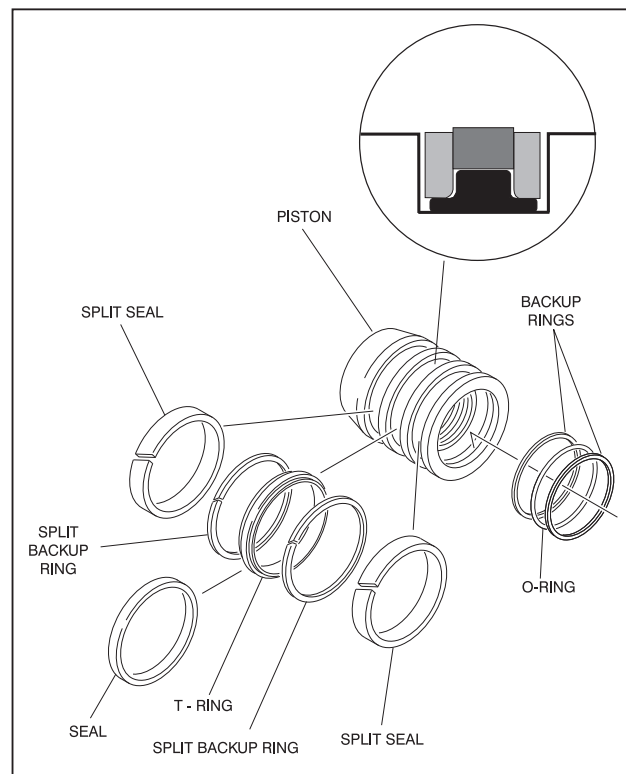

Figure 4-23. Piston Seal Kit Installation
NOTE: The backup rings for the solid seal have a radius on one side. This side faces the solid seal. [See magnified insert in (See Figure 4-23.)] The split of seals and backup rings must be positioned so as not to be in alignment with each other.
9. Place new guide locks and seals in the applicable outside diameter grooves of the cylinder piston. (See Figure 4-23.)